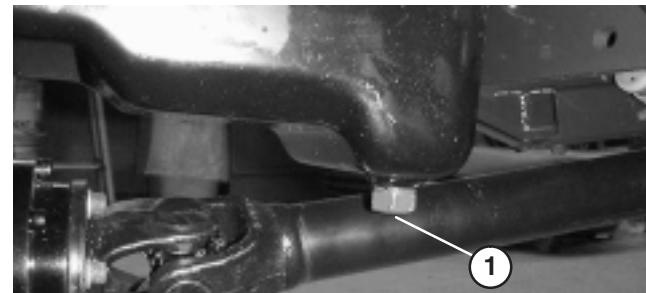

Figure 46
2. Open the hood. Set drain pan under the oil pan and in line with drain plug (Fig. 46).